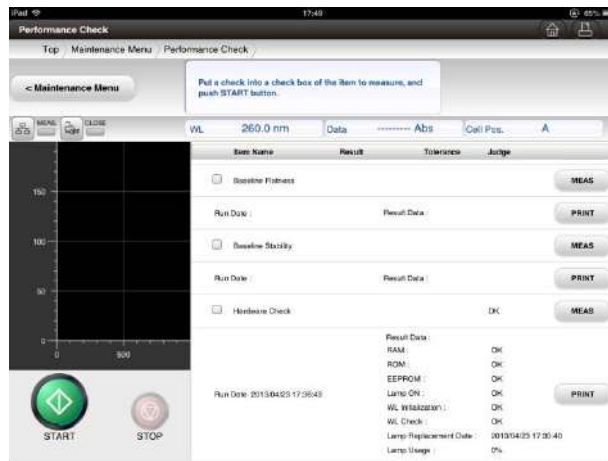

Fig. 6-13 Performance Check Screen
- (1) Display the Performance Check screen (Fig. 6-13). Press the **MEAS** button on the right edge of the item name “Baseline flatness.” Then, the baseline flatness check is performed.